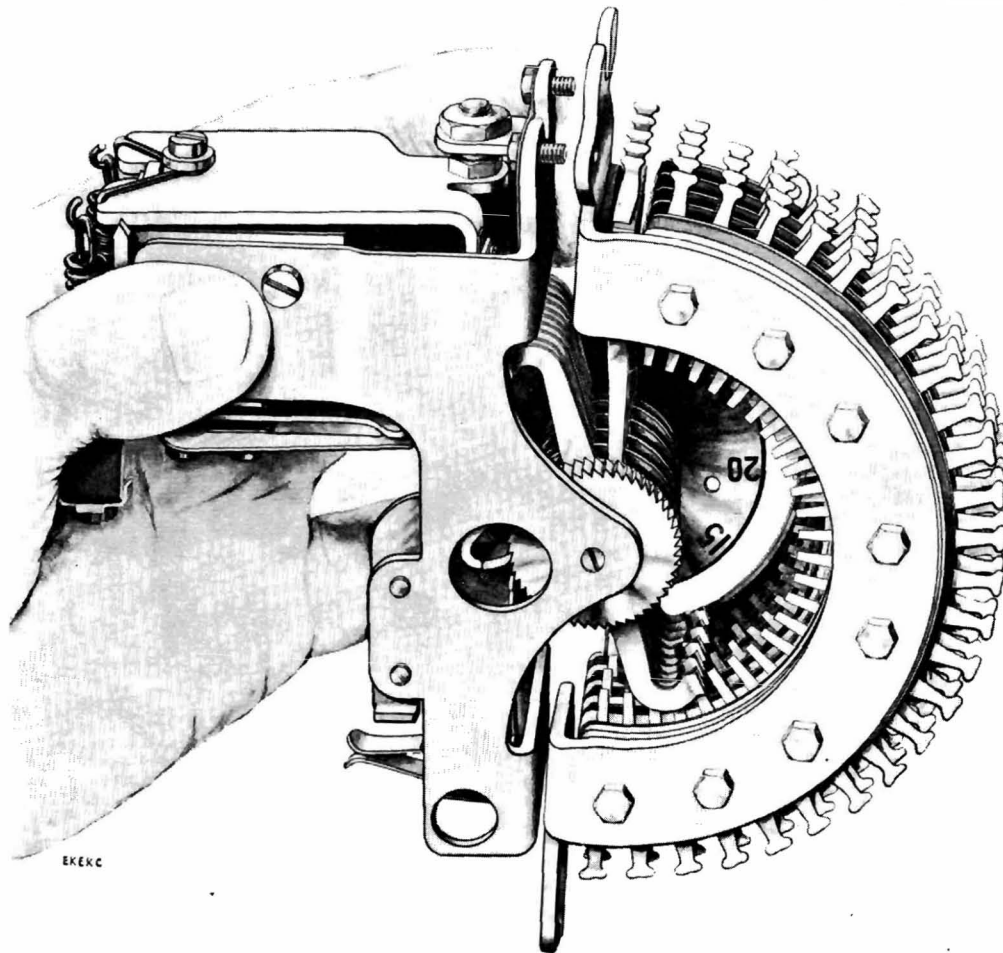

FIG. 3.—REMOVING THE MECHANISM FROM THE BANK
4. **Removing mechanism from bank.**—To avoid any possibility of the wipers fouling the bank and brushes, set the wipers on the lower half of the bank, between contacts 15 and 25. Then withdraw the two top mechanism-securing screws; grip the mechanism with one hand; remove the bottom securing-screw with the other hand, and withdraw the mechanism (see Fig. 3).